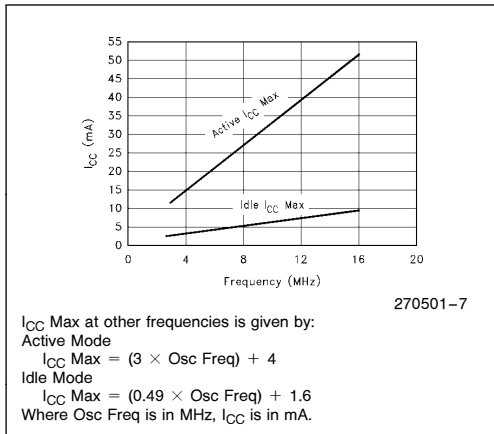

Figure 6.  $I_{CC}$  vs Frequency
- See Figures 6–9 for test conditions. Minimum  $V_{CC}$  for Power Down is 2.0V.